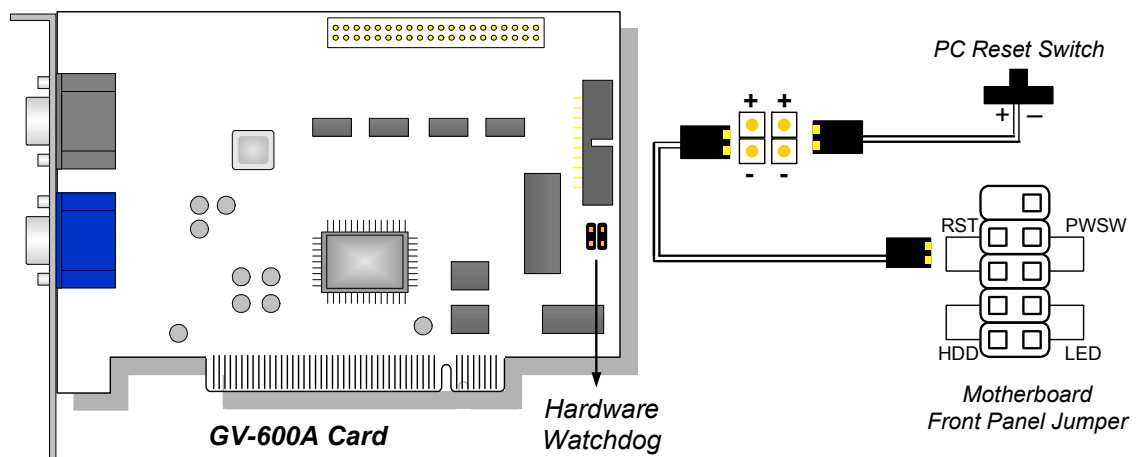

Figure 1-48
- **Hardware Watchdog Connection:** Connect the supplied Hardware Watchdog Jump Wire to the Master Card only (Figure 1-48).